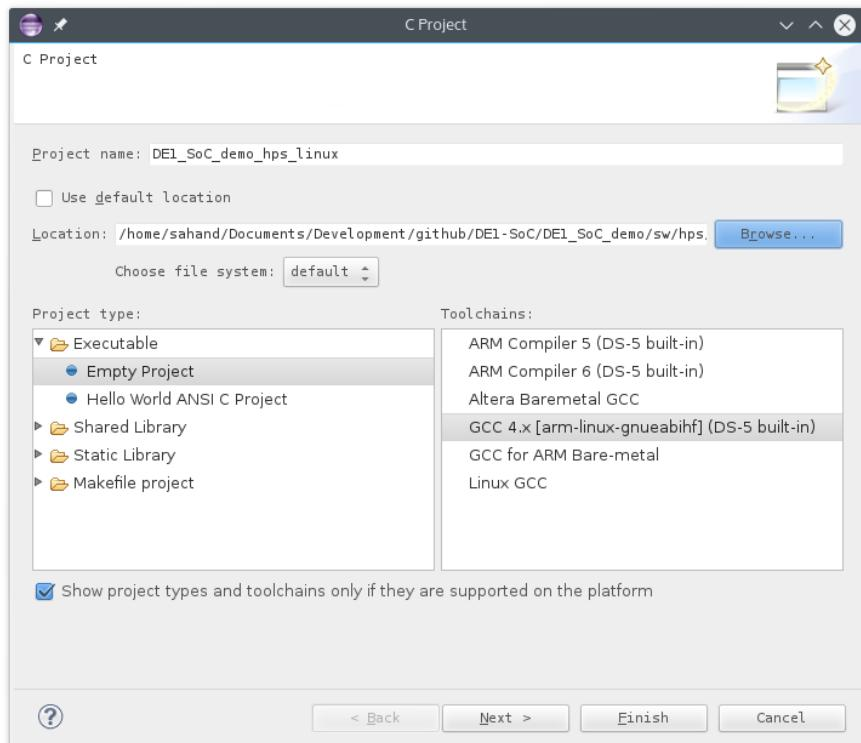

Figure 13-5. New C Project Dialog
- f. You should have something similar to Figure 13-5. Then, press the “Finish” button to create the project.